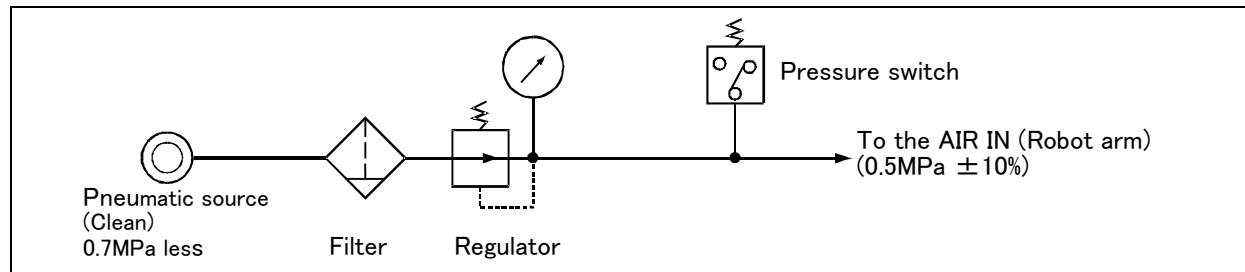

Fig.2-22 : Air supply circuit example for the hand
- (1) Make sure that a surge voltage protection circuit such as a diode is connected to the solenoid coil in parallel.
- (2) When the factory pneumatic pressure drops, as a result of the hand clamp strength weakening, there can be damage to the work. To prevent it, install a pressure switch to the source of the air as shown in Fig. 2-22 and use the circuit described so that the robot stops when pressure drops. Use a hand with a spring-pressure clamp, or a mechanical lock-type hand, that can be used in cases where the pressure switch becomes damaged.
- (3) The optional hand and solenoid valve are of an oilless type. If they are used, don't use any lubricator.
- (4) If the air supply temperature (primary piping) used for the tool etc. is lower than ambient air temperature, the dew condensation may occur on the coupling or the hose surface.